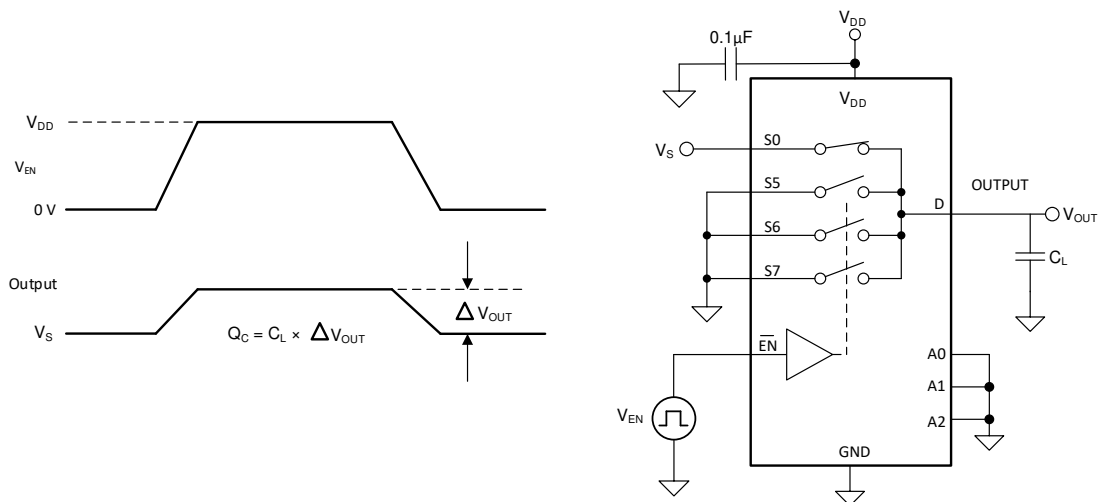

图 8-7. Charge-Injection Measurement Setup
The TMUX1308-Q1 and TMUX1309-Q1 device have a transmission-gate topology. Any mismatch in capacitance between the NMOS and PMOS transistors results in a charge injected into the drain or source during the falling or rising edge of the gate signal. The amount of charge injected into the source or drain of the device is known as charge injection, and is denoted by the symbol Q_C . 图 8-7 shows the setup used to measure charge injection from source (Sx) to drain (D).